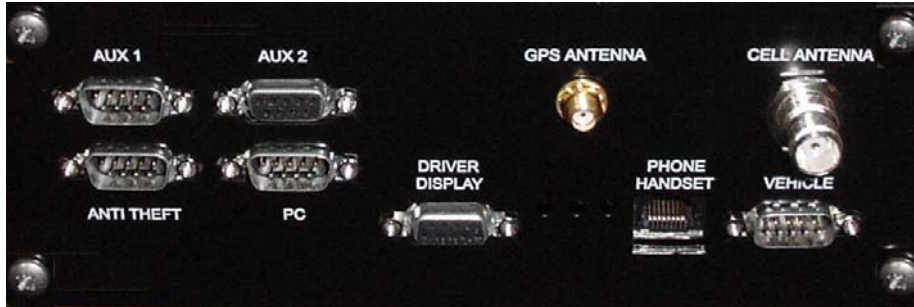

Figure 4: Detail of Connections on the Truck-Link CPU
- 5 Connect the Vehicle Power Cable (p/n MTI-C-11) to the “Vehicle” Connector on the Truck-Link CPU. Connect the Driver Display Cable (p/n MTI-C-10) to the “Driver Display” Connector on the Truck-Link CPU. Connect the Handset Extension Cable (p/n MTI-C-4) to the “Phone Handset” Port on the Truck-Link CPU. See Figure 4, below.